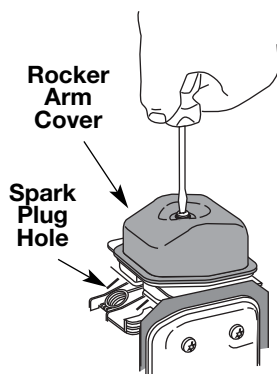

Fig. 31
5. Clean dirt from around the rocker arm cover. Remove the screw holding the rocker arm cover with a large flat blade screwdriver or Torx T-25 bit (Fig. 31). Remove the rocker arm cover and gasket.